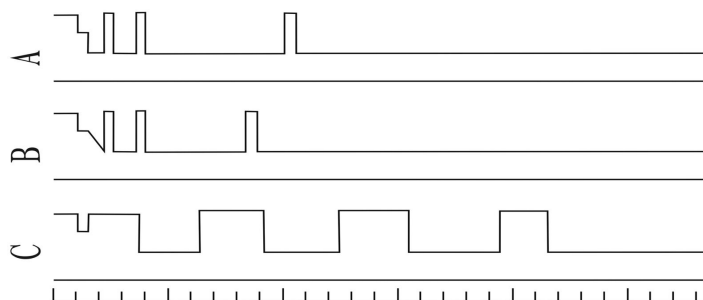

Figure 6.15
2. Possible waveform caused by lower instrument power voltage(see figure 6.15)